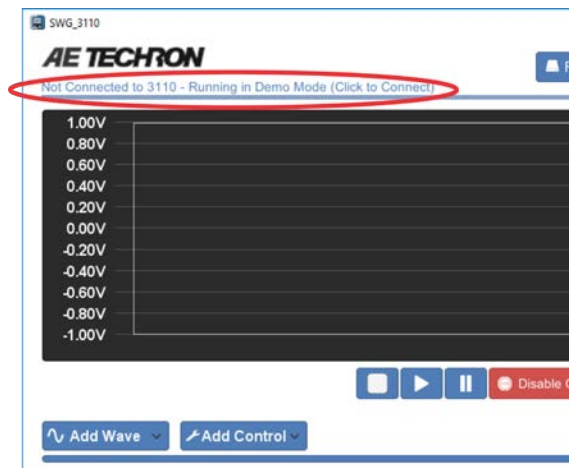

Figure 4.4 – Remote Connection to the 3110A/DSR System
- When the program has been installed and loaded, the notice *"Not Connected to 3110 - Running in Demo Mode (Click to Connect)"* will be displayed in the upper left of the window (see **Figure 4.4**). Click the message to open the connection dialog, and then type the 3110A IP address you wrote down into the IP Address text box. Press OK to connect to the remote 3110A/DSR system. The remote 3110A's dis-